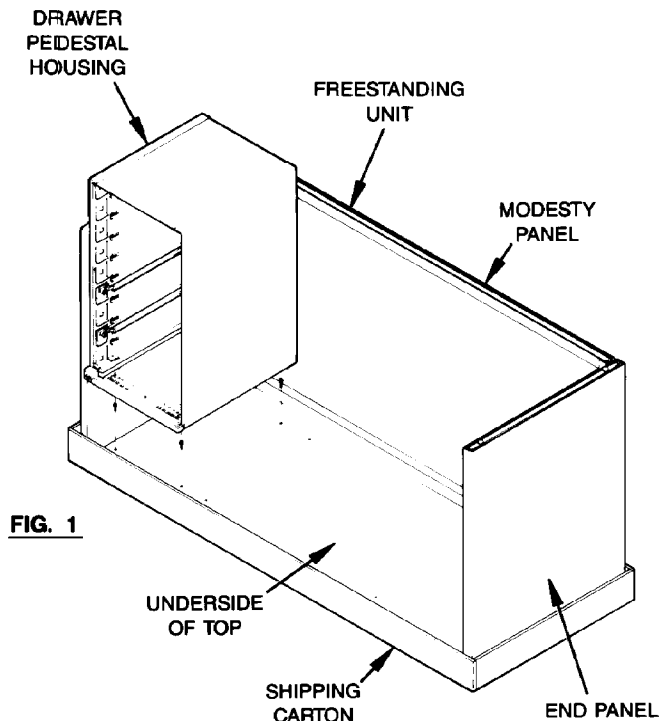

FIG. 1
NOTE: When installing pedestals on a newly-received freestanding unit, leave the unit in an upside down position in the shipping carton (Fig. 1). When installing pedestals on 20" deep returns, refer to instructions supplied with pedestal unit.
1. Fasten return support bracket to the predrilled underside of the desk top, using three (3) #12-11 X 1" truss head screws provided (Fig. 1).